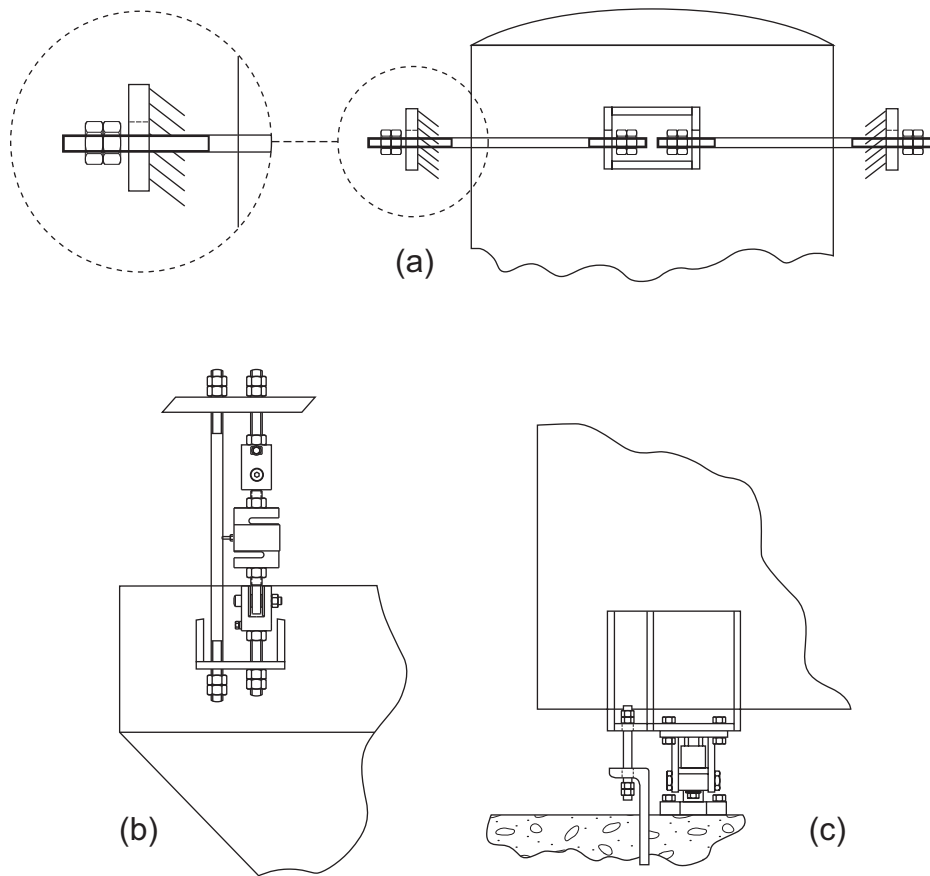

Figure 20-3. Safety Check Rods
As shown in Figure 20-3 on page 82 (a), to be most effective, safety check rods must be fitted at or above the filled vessel's center of gravity. Note that stay rods will perform all these functions and more; however, safety check rods are less critical to system operation and therefore do not require the same attention to detail for successful installation.
- On all vessels mounted in tension where failure of the normal suspension means would allow the vessel to fall and cause injury or damage, see Figure 20-3 \(b\).
- In place of horizontal check rods when it is not practical to use these to ensure the stability of tall slender vessels or those subjected to wind or seismic forces, see Figure 20-3 \(c\).